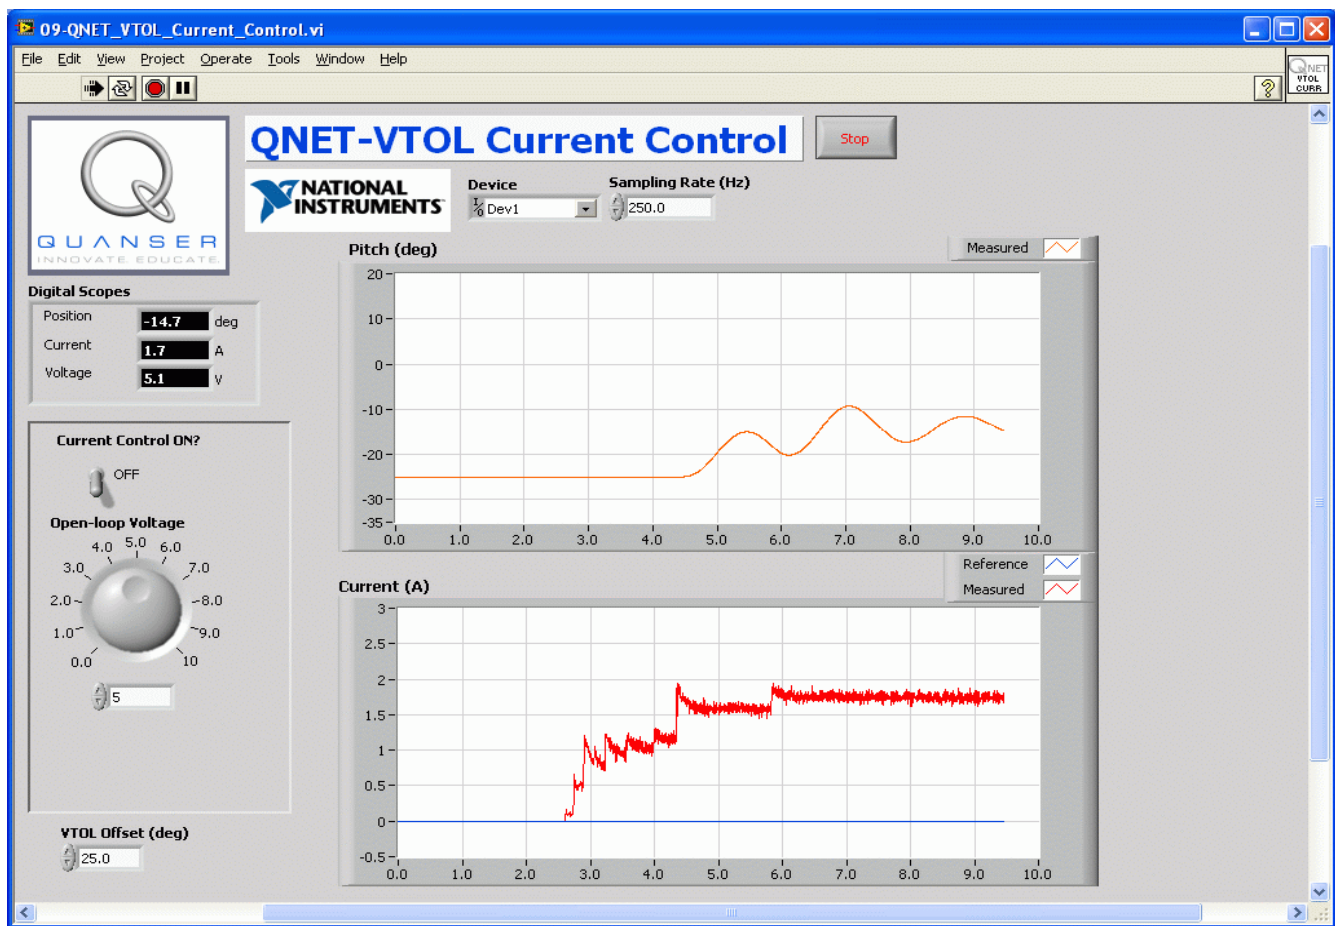

Figure 7: Running QNET-VTOL Current Control in open-loop voltage mode.
1. Open the QNET_VTOL_Current_Control.vi shown in Figure 7, below.